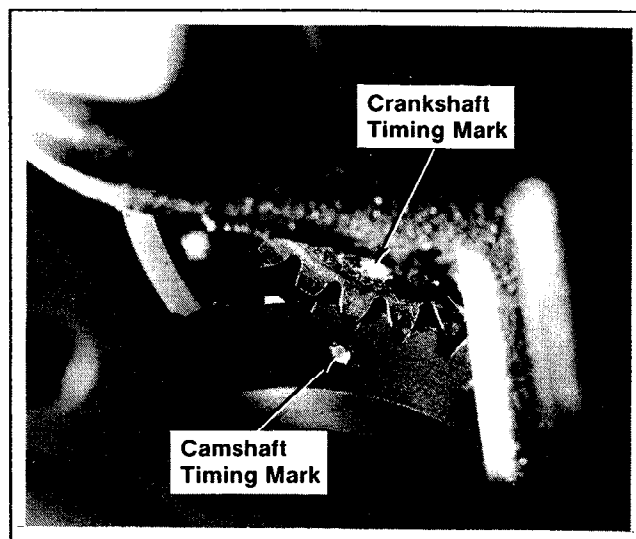

Figure 12-15. Aligning Crankshaft And Camshaft Timing Marks.
3. Remove the balance gear timing tool and align the primary timing mark on the crankshaft with the timing mark on the camshaft gear. Refer to Figure 12-15. Press the crankshaft all the way into the rear bearing. Make sure the camshaft and crankshaft gears mesh and that the timing marks align while pressing.
- The primary timing mark on crankshaft should align with the timing mark on camshaft. Refer to Figure 12-15.
2. Align the primary timing mark on the crankshaft with the timing mark on the camshaft gear. Refer to Figure 12-15. Press the crankshaft all the way into the rear bearing. Make sure the camshaft and crankshaft gears mesh and that the timing marks align while pressing.
- The primary mark on crankshaft should align with timing mark on camshaft. Refer to Figure 12-15. If the marks do not align, the timing is incorrect and must be corrected.